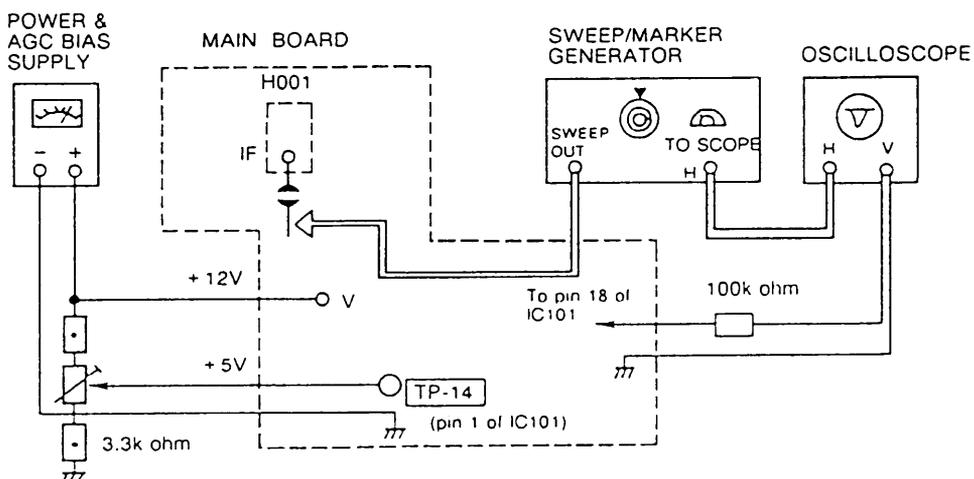

Figure 4. Picture IF Sweep Alignment
- GENERAL Refer to figure 4 for test equipment connection.
- PRELIMINARY STEPS 1. Disconnect the solder link (See figure 4.) on the foil side of the Main Board.
- SWEEP/MARKER GENERATOR..... Connect to IF circuit as shown in figure 4.